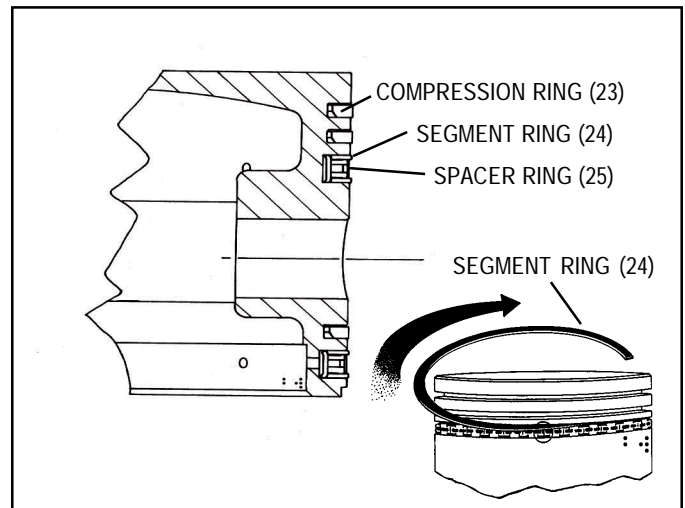

FIGURE 14 - PISTON & RINGS
1. Install the spacer and segment rings as follows. Place the spacer ring (25) in the piston groove, the ends of the spacer must butt and not overlap. Install the top segment (24) by inserting one end above the spacer in the ring groove, 120 degrees from the spacer ends and wind the segment into position. Install the bottom segment in the same manner beneath the spacer, making sure the gap is staggered 120 degrees from both the top ring segment and the spacer end gaps. Before using be sure both painted ends of the spacer are visible and butted. (Refer to Figure 14.)
2. Install the compression rings (23) in the proper grooves with the bevel or "pip" mark (if any) toward the top of the piston. (Refer to Figure 14.)